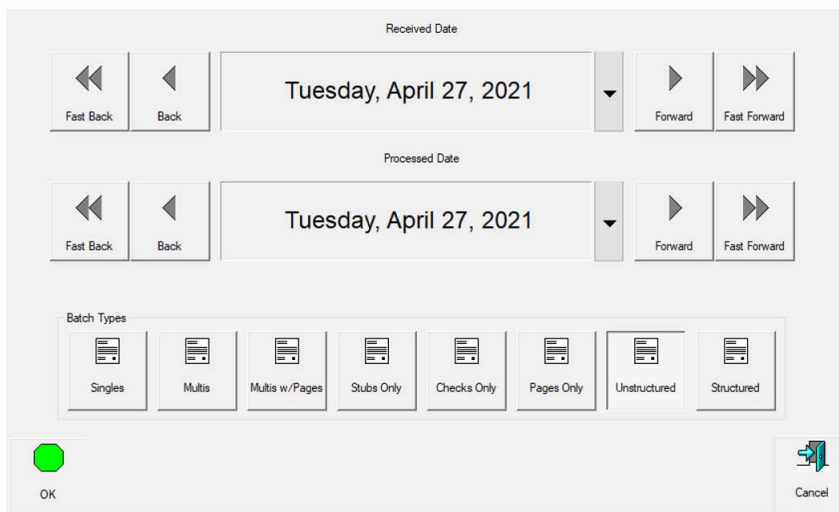

Figure 3-7: Prompt for Dates and Batch Types
- Prompt to change Job Type, Process and Receive Dates: Requires operator to select Job type and or process dates. After selecting, click OK button to continue (Figure 3-7).